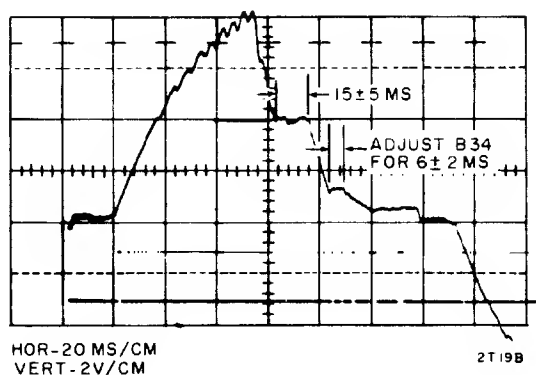

Figure 6-16. Tachometer Output (99-Track Forward Seek)
11. Command the disk storage drive to perform a 99-track repeat seek. Connect the oscilloscope external trigger to test point C of the Detent FF (C38). Set the External Sync switch to positive. Make oscilloscope settings and a trace comparison according to Figure 6-16. The upper plateau width should be  $15 \pm 5$  ms and should have an amplitude of between 2.0 and 3.5 vdc. The 6 ips plateau width should be  $6 \pm 2$  ms. Adjust the width of the 6 ips plateau with the potentiometer shaft on Y305 at location B34.